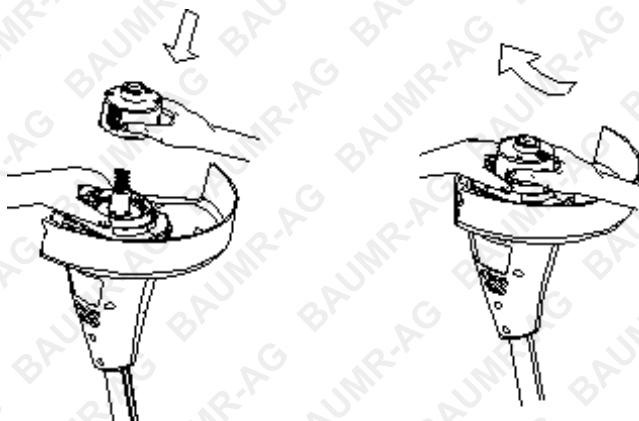

FIG. 8
3. Remove the spool assembly from the trimmer. To do so, hold the outer ribbed part of the assembly with one hand, while pushing down and turning the spool head with the other to unlock it (FIG. 8). The spool carrier and spool will now disassemble easily.